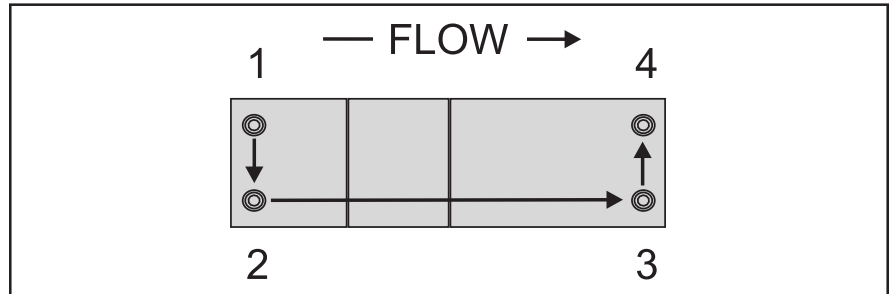

Figure 2-5 Mounting Screws Torque Pattern\*
- Using a torque wrench and a metric hex key, tighten the screws to the torque value as described in Table 2-2 and Torque Pattern Figure 2-5.